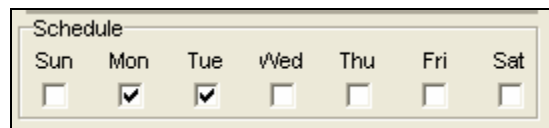

Figure 17.2.4
2. Check the appropriate box for each day that you want this schedule to run (Figure 17.2.4).